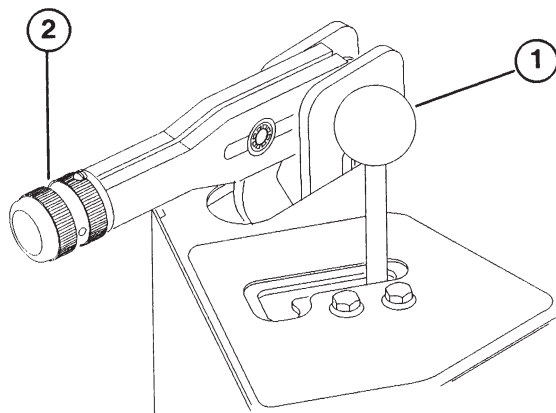

Figure 7
**Lift Lever** (Fig. 7)—To raise the implement, pull the lever up; to lower the implement, push the lever forward. For float position, move the lever into the detent position. When the desired position is attained, release the lever and it will return to neutral.
**Parking Brake** (Fig. 7)—To engage the parking brake, pull back on the lever. To disengage it, push the lever forward.